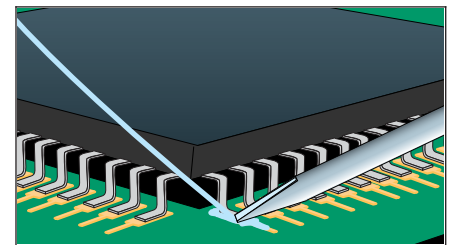

Figure 4 Solder Leads
7. Position chisel tip on lead. Apply solder to side of lead/land area to form proper solder fillet. (See Figure 4.)